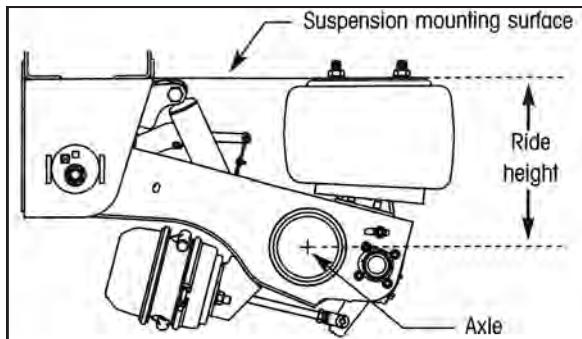

Figure 23. Ride Height Measurement
- a. Measure from the underside of the trailer frame to the top of the axle as shown below (Figure 23).